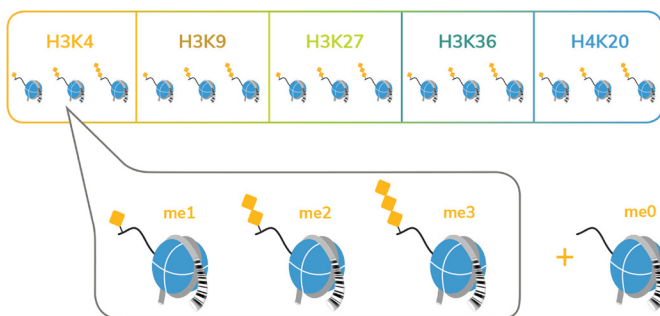
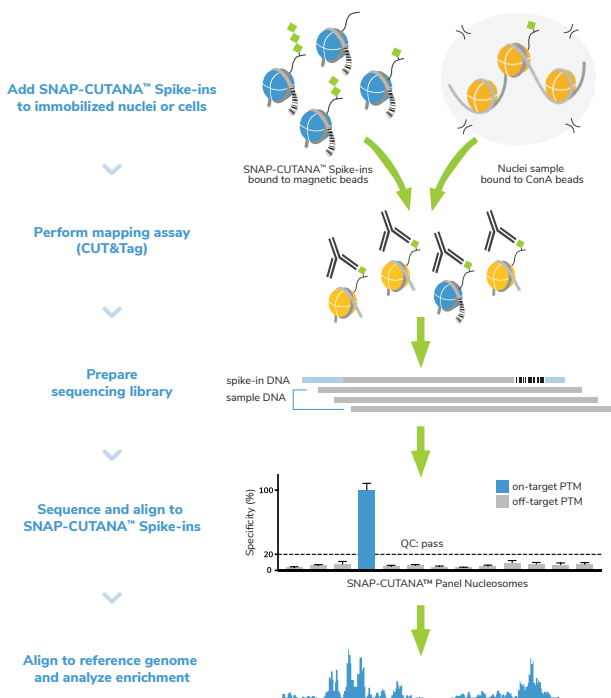

FIGURE 13
FIGURE 14
The K-MetStat Panel comprises designer nucleosomes representing 16 distinct histone lysine methylation states (Figure 13). Each PTM is represented by two unique DNA-barcoded templates (A and B, for an internal technical replicate). Nucleosomes are individually coupled to magnetic beads and pooled into a single panel for convenient one-step addition to CUT&Tag workflows (Figure 14).
- Add the K-MetStat Panel to designated control reactions immediately prior to the addition of H3K27me3 or IgG control antibody (Figure 14).
- Add antibody, which binds its target in cells **and** in the spike-in panel (Figure 14).